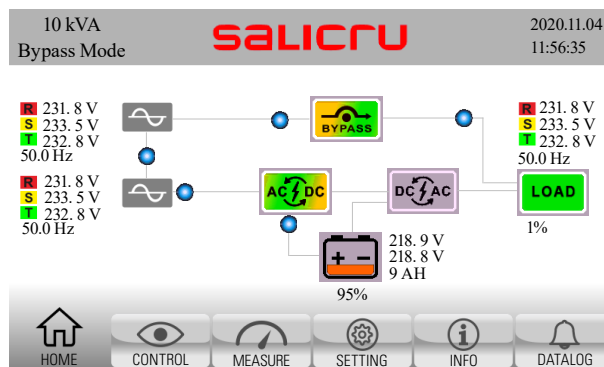

Fig. 57. Main screen in bypass mode. The power flow goes directly from the bypass input to the output, via the static bypass switch.
2. The loads switch to being supplied directly from the static bypass line. Check that the unit's synoptic corresponds to the one in Fig. 57 (unit in bypass mode).
11. The <3A> alarm "maintain is open" disappears. Check that the unit's synoptic corresponds to the one in Fig. 57 (unit in bypass mode).
- b. The UPS switches automatically from standby mode to bypass mode, the loads switch to being supplied directly from the static bypass line. Check that the alarm <0B> "EPO active" disappears. Also check that the unit's synoptic corresponds to the one in Fig. 57 (unit in bypass mode).